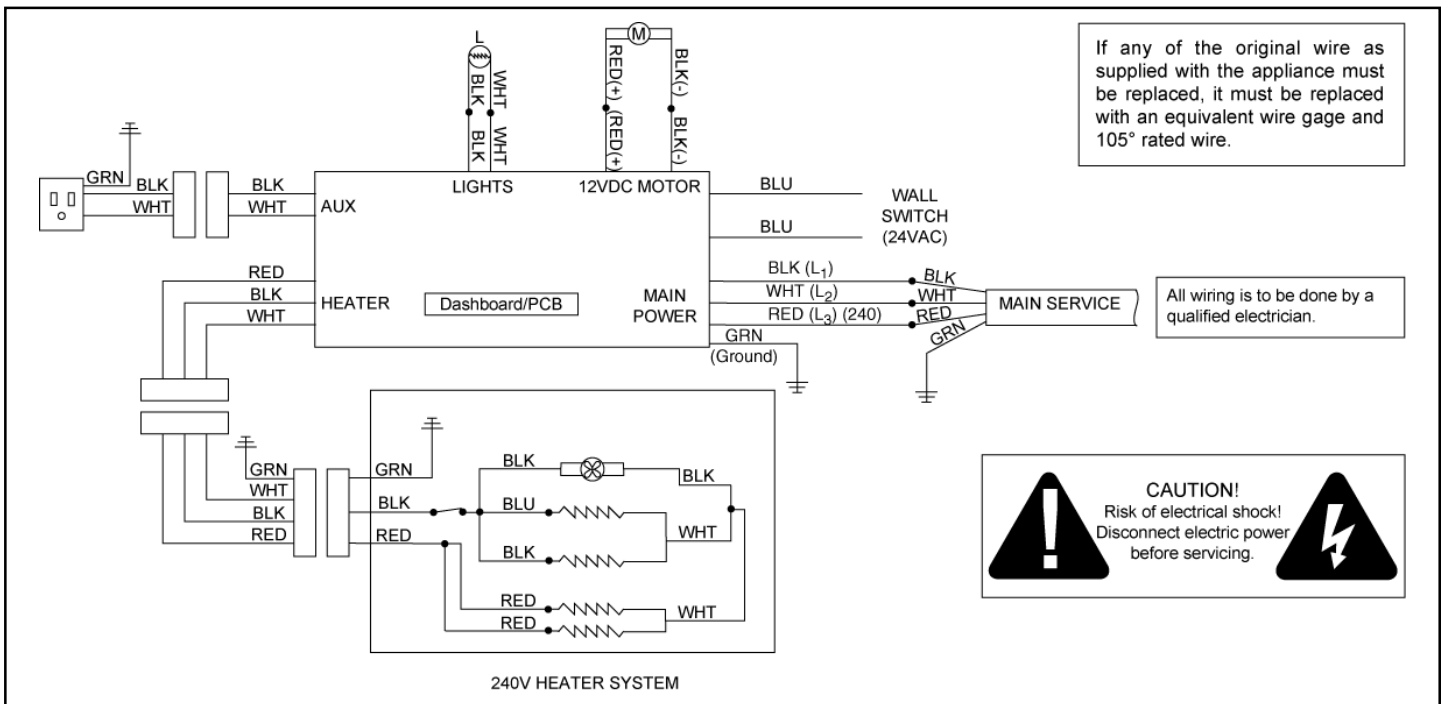

Figure 4 - 208V/240V Wiring Diagram
- 6) Connect black (L1), white (L2) and red (L3) wires of the appliance to the black, white and red wires from the service. Connect green (ground) wire from appliance to the ground of the service. See Figure 4.